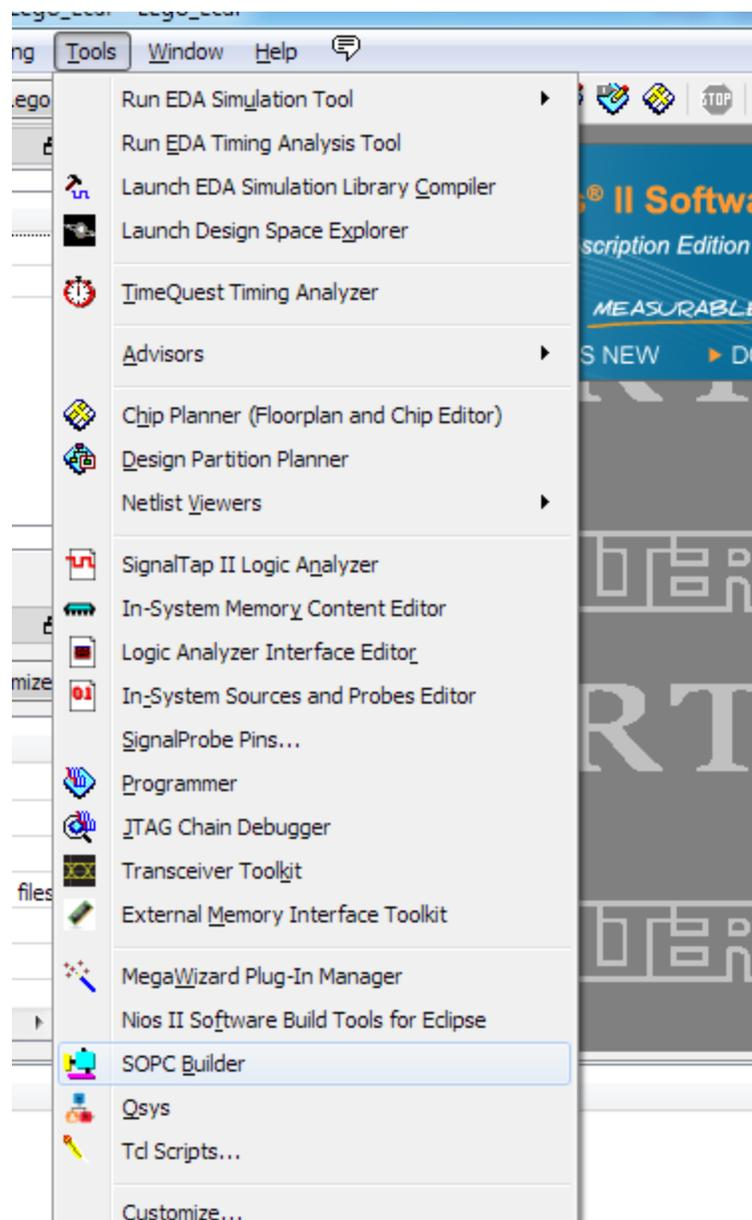

Figure 1-9 SOPC Builder Menu
5. Choose **Tools > SOPC Builder** to open new SOPC system wizard .See Figure 1-9 and Figure 1-10.